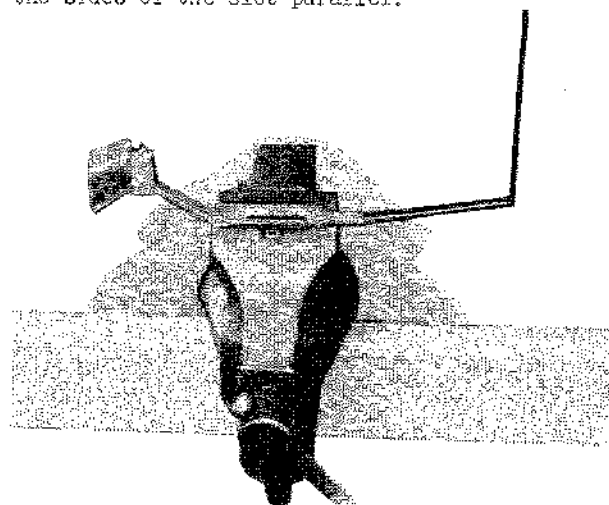

FIGURE 18 METHOD OF CLOSING UP POINTER SLOT TO OBTAIN PROPER CLEARANCE WITH POINTER GUIDE PIN
3. If necessary the pointer may be bent slightly to secure proper alignment, but extreme caution should be exercised as it can easily be broken. See that the guide pin enters the slot easily without binding and with not more than .001 inch clearance. If more than .001 inch clearance is noted, it will be necessary to close up the slot by carefully squeezing the sides together in a smooth jaw vise. See Fig. 18. If slot is too narrow it will be necessary to grind out the sides with a flat India oil stone. Always exercise extreme caution to keep the sides of the slot parallel.